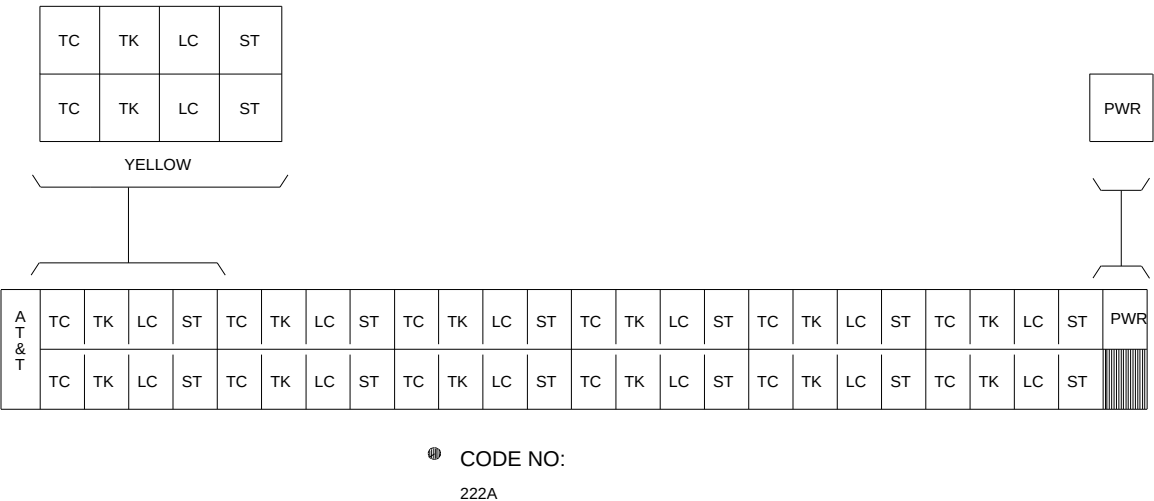

Figure 9-26. 808A Emergency Transfer Unit Label
The label shown in Figure 9-26 identifies the emergency transfer leads and the -48VDC power connection for the 808A emergency transfer unit.
- (2) 808A Emergency transfer unit labels (Figure 9-26)